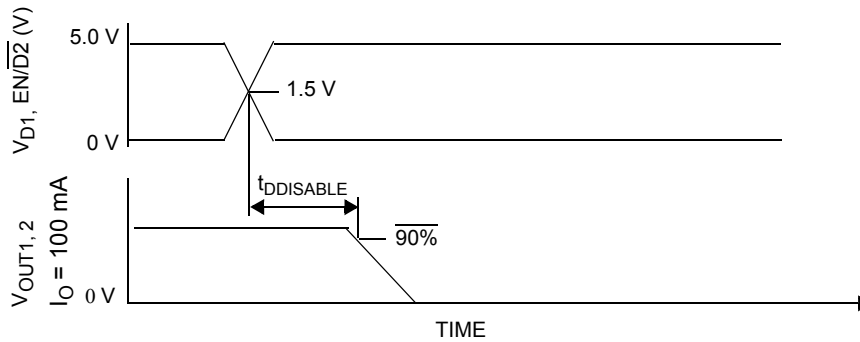

Figure 5. Disable Delay Time
26. \* Disable Delay Time measurement is defined in Figure 5, page 10.